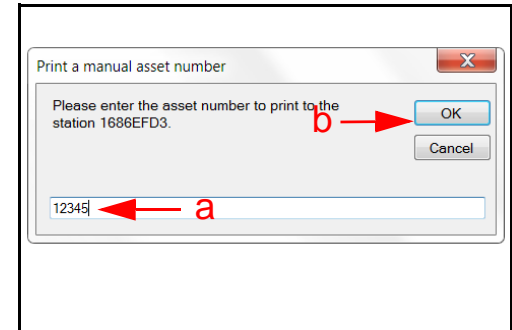

Figure 38 Print Manual Asset Dialog Box
3. Enter the Asset Number for the Ticket to be printed in the Print a manual asset number dialog box (Figure 38 a), then click the OK button (Figure 38 b).